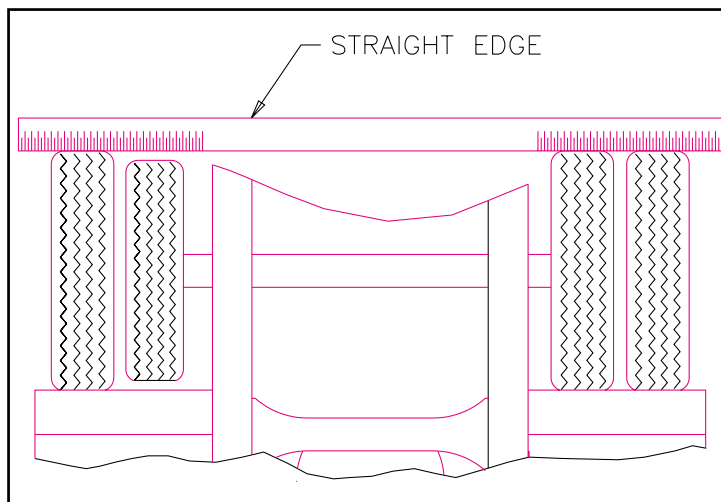

Fig. 4-18 Straight Edge Method
- b. **Straight Edge or String Method:** (This method can not be used if tire and wheel assemblies are not mounted on the axle.) Jack semitrailer up until the wheels are off of the ground. Hold a straight edge against the tires of both ends of an axle. A gap at one tire indicates a smaller tire. A maximum of 1/8" gap is allowed (**See Figure 4-18**).